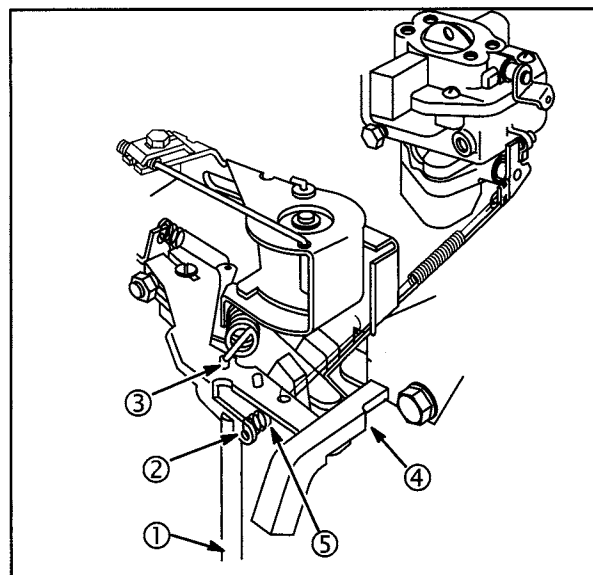

Fig. 42
Some Vanguard™ OHV V-Twin engines with remote speed control are equipped with a secondary governor spring (5). The primary governor spring is installed in #1 hole (3) on governor lever, Fig. 42.
- Install Adjustment Gauge #19385 (4), with notch over end of governor lever and flat end of tool against governor control bracket as shown in Fig. 42.
- Hold gauge in position and bend tab (2) with Tang Bender #19532 (1), so that all slack is removed from secondary governor spring (5) between its two anchor points, Fig. 42. DO NOT STRETCH SPRING.